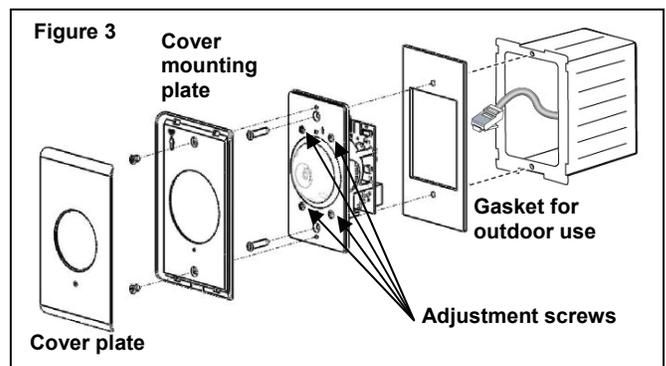

Figure 3
1. Run the Category 5 cable from the enclosure terminated with an RJ-45 plug (see **Figure 3**) through the supplied gasket and connect to the RJ45 jack on the rear of the Camera. The other end of the cable will be connected to the Camera Module in the enclosure in step 5.
2. As shown in **Figure 3**, place the supplied outdoor gasket against the back box (if applicable) and attach the camera assembly to the back box with two supplied screws.